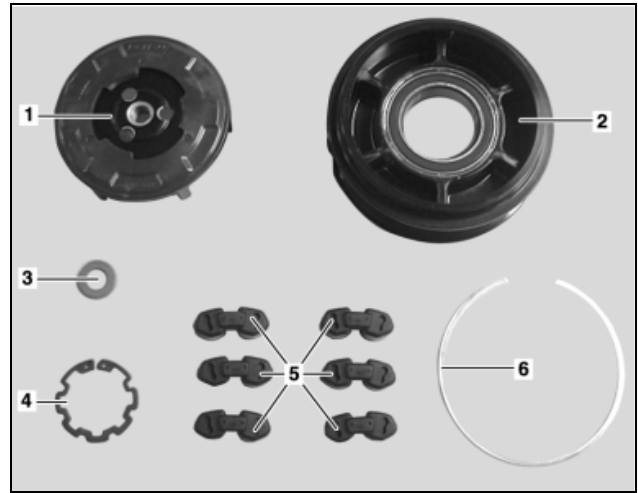

Figure 2 P-B-83.55/87
12. Refer to Figure 2 for component number references. Remove the belt pulley circlip (Figure 2, Part 6). With plastic belt pulleys, it is possible to insert a screwdriver under the circlip (Figure 2, Part 6) and pry it out of the groove.
13. Remove hub (Figure 2, Part 1) using a socket and counter hold tool W112 589 07 40 00. Use a small magnet to remove flat washer from shaft.
14. Remove snap ring (Figure 2, Part 4) for pulley bearing.
15. Remove belt pulley (Figure 2, Part 2) from the end of compressor housing.
Assemble the rubber dampers (Figure 2, Part 5) into new pulley the as shown in example **A** in Figure 4 and Figure 5. Make note of the direction of the curvature of the rubber dampers and install them over the reinforcing webs in the pulley, not in the spaces between the webs.
16. Install new belt pulley (Figure 2, Part 2) onto the end of compressor housing. Make sure it is the same diameter as the original, 100 mm, 110 mm.
17. Install the snap ring (Figure 2, Part 4) for pulley bearing with its flat side facing the refrigerant compressor. Make sure the snap ring is seated correctly in the groove.
18. Install washer (Figure 2, Part 3). Make sure it is flat against the shoulder of the shaft.
19. Install hub (Figure 2, Part 1) so the drive fingers are inserted into the gaps between the ends of the rubber dampers. Screw the hub onto the compressor shaft clockwise and torque to 35 nm. The hub continues to tighten when in the compressor is in operation.
20. Install circlip (Figure 2, Part 6) into the belt pulley. Make sure it is seated in the groove of the pulley.